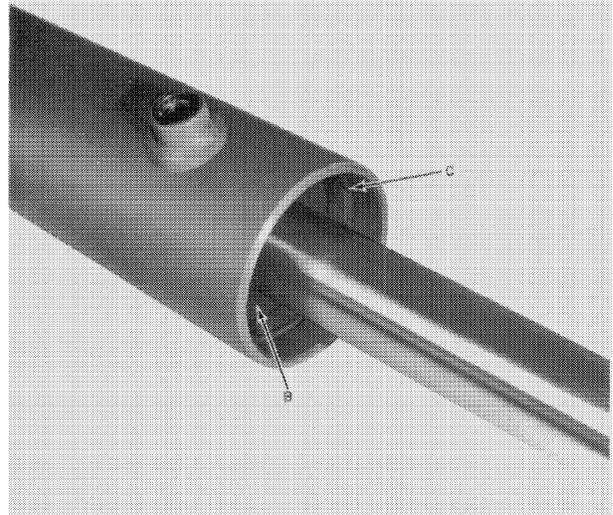

FIGURE 2-11
2. Tap cylinder head, B, Figure 2-11, into the cylinder far enough to remove retaining ring, C, with a screwdriver.
3. Insert the complete piston rod assembly into the barrel and install retaining ring, C, Figure 2-11.